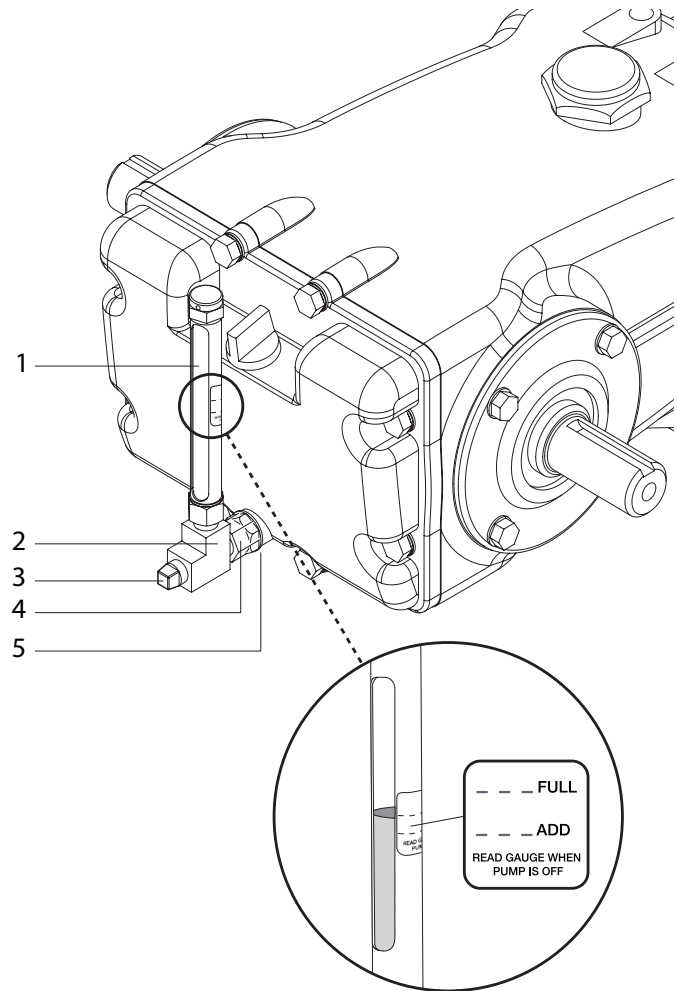

Figure 1
3. Install 1/4" BSP fitting (Figure1, item 4) with O-ring (5) into rear cover of pump.
4. Thread in tee (2) to fitting (4).
5. Thread in square end plug (3) into tee (2).
6. Thread in crankcase oil level gauge (1) into open port of vertical leg of tee (2).
1. Ensure square end plug (3) is installed at end of tee (2).
3. Fill pump to capacity as stated in pump data sheet. Add an additional 0.25 oz of oil to fill crankcase oil level gauge (1) to center of gauge.
5. Position silver label on crankcase oil level gauge (1) so that the "FULL" line is level with the oil when pump is not running (Figure 1).
1. Ensure square end plug (5) is installed in union fitting (6).
3. Fill pump to capacity as stated in pump data sheet. Add an additional 2 oz of oil to fill crankcase oil level gauge (1) and drain hose (8) to center of gauge.
5. Position silver label on crankcase oil level gauge (1) so that the "FULL" line is level with the oil when pump is not running (See Fig. 1).